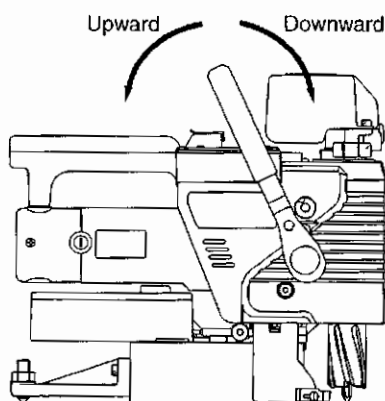

Fig. 11
- (1) Lift the cutter up by turning handle counterclockwise. (Fig. 11)